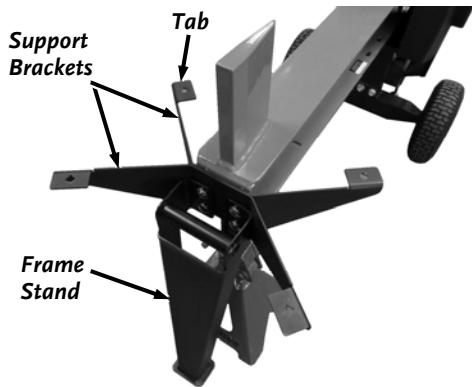

Figure 4
1. Support the Beam of the Log Splitter with a Jack Stand or equivalent (**Figure 4**).